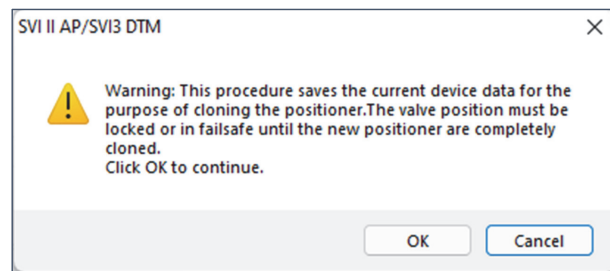

Figure 108 - Save Data
4. Click **Step 1: Saving Data for Cloning** in the navigation pane and Figure 108 appears.